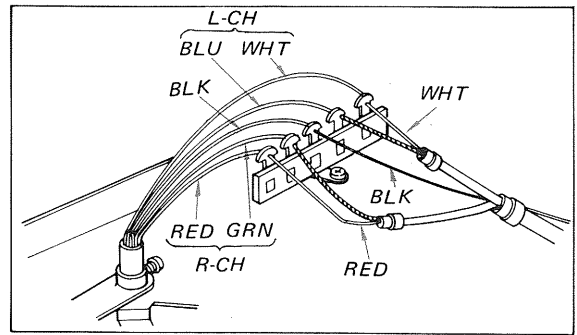

Fig. 2-9. Lead wire connections
4. Unsolder the leads from the terminal beneath the turntable base as shown in Fig. 2-9.